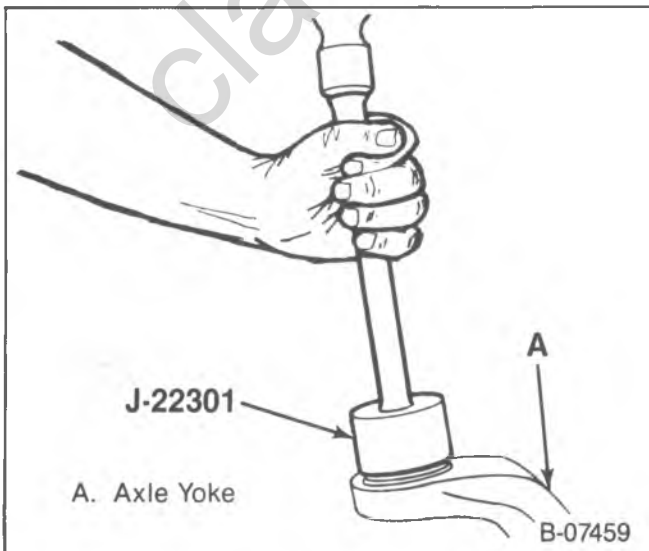
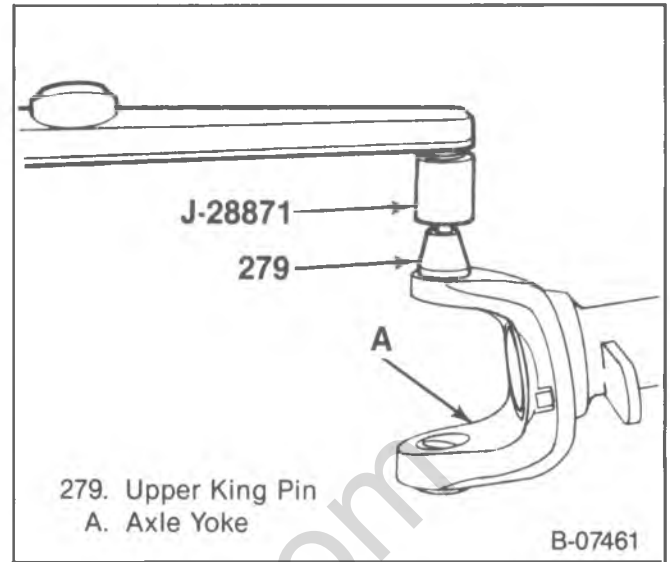

Figure 57—Installing the Seal
Figure 58—Installing the Upper King Pin
- 3. Bearing (283) and seal (284).
- Use J-22301 to install the NEW seal (Figure 57).
- 4. Upper king pin (279).
- Use J-28871 (figure 58).